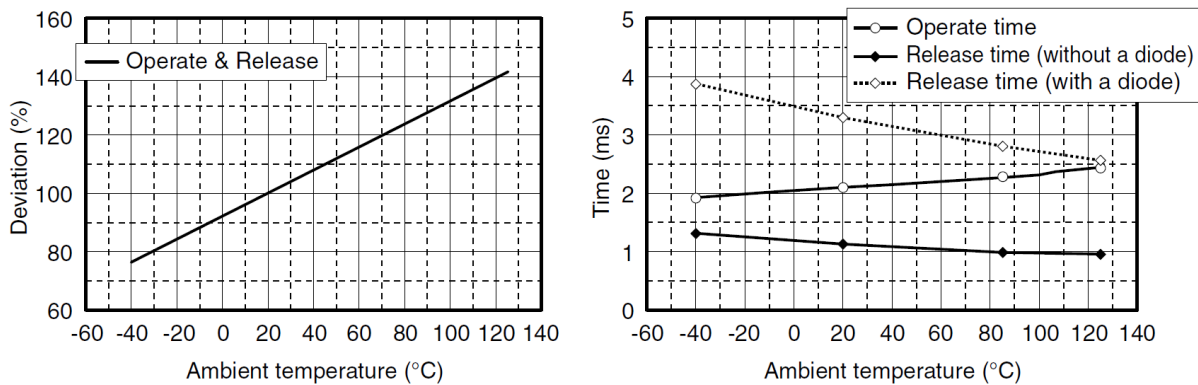

Figure 5 Temperature characteristics of relay (example: EX2 relay)
- Please use the relay at coil rated voltage within the specified temperature range. NOTE: Permissible coil voltage may be restricted and must be confirmed before the relay is used. (Refer to (2) in “Maximum applied coil voltage”).
- The operating characteristics of the relay change with ambient temperature. Confirm the temperature condition in the application and confirm the characteristics changes at the technical documents. Figure 5 shows the example of the temperature characteristics.